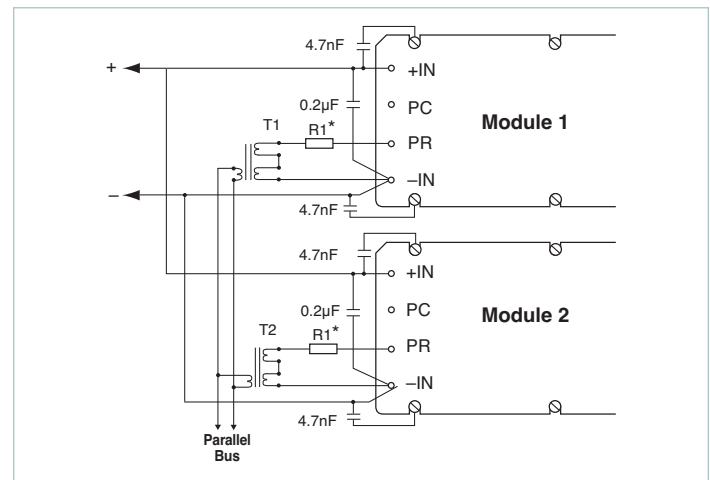

Figure 2.8 — Transformer-coupled interface
2. **Transformer-coupled interface:** Modules or arrays of modules may also be interfaced to share a load while providing galvanic isolation between PR pins via a transformer-coupled interface. For large arrays, buffering may be required. The power source for the buffer circuit may be derived from the PC pins. For arrays of four or more modules, the transformer-coupled interface is recommended. (Figure 2.8)
Some applications require physical separation of paralleled modules on different boards and / or input power from separate sources. For applications using separate sources, please refer to the “Hot-Swap Capability Eliminates Downtime” application note on the Vicor website. In these cases, transformer coupling of the PR signal, per Figure 2.8, is required to prevent inter-module common-mode noise from interfering with the sync-pulse transmission. High-speed buffering may be required with large arrays or if the distance between modules is greater than a few inches. This is due to the fact that all modules, except the one that’s talking, are in the listening mode. Each listener presents a load to the parent (talker), which is approximately 500 Ω shunted by 30pF capacitance. Long leads for the interconnection introduce losses and parasitic reactance on the bus, which can attenuate and distort the sync-pulse signal. The bandwidth of the PR bus must